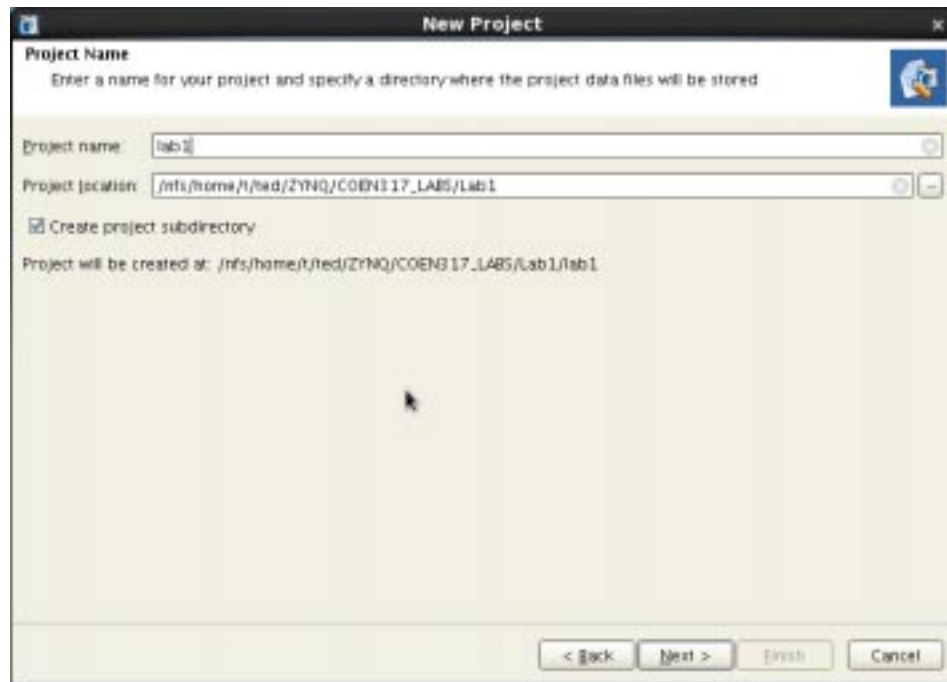

Figure 2: Specifying a project name and location.
3.2. Change the default project name to lab1. The project location will be the Linux path of the directory from where you invoked planAhead from. Select Next to continue. Refer to Figure 2 for details.